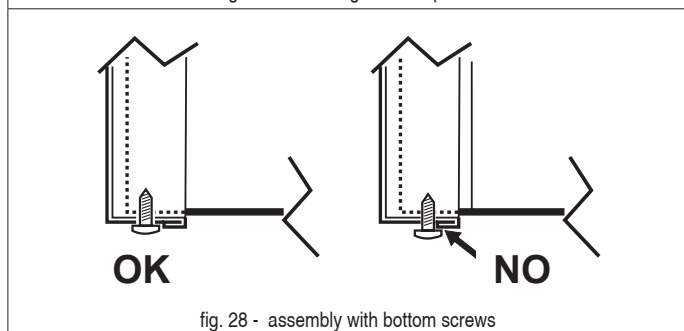

fig. 28 - assembly with bottom screws
3. Proceed in reverse order to reassemble the front panel. Make sure that it is correctly attached to the upper fixing and completely resting on the side panels. The head of the screw "A", once tightened, must be positioned as indicated in "fig. 28 - assembly with bottom screws").